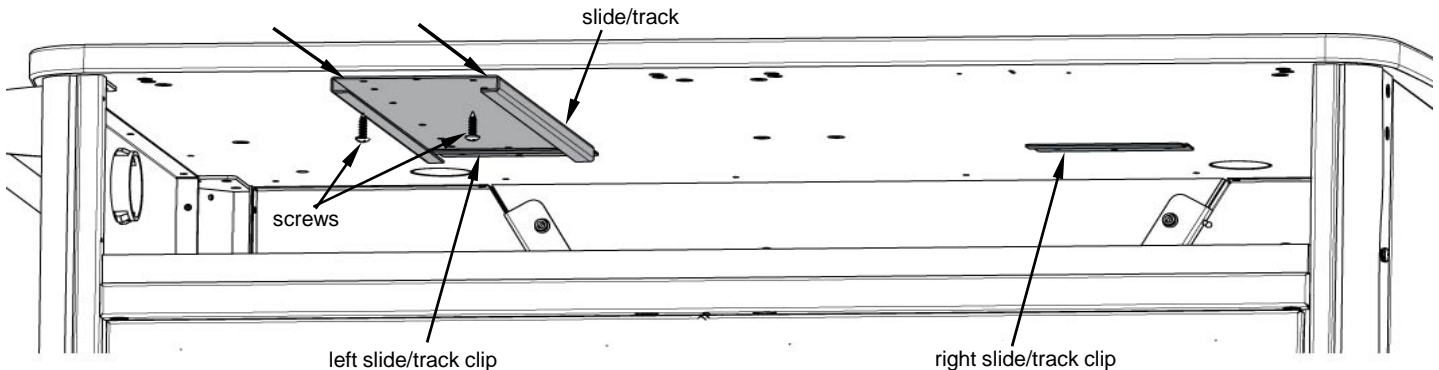

Figure 5
- Hook the keyboard slide/track into one of the pre-installed clips under the left or right-side of the work surface. **Figure 5.**
- Attach slide/track to the work surface using (2) screws (from the keyboard tray kit) and the pre-drilled work surface holes.